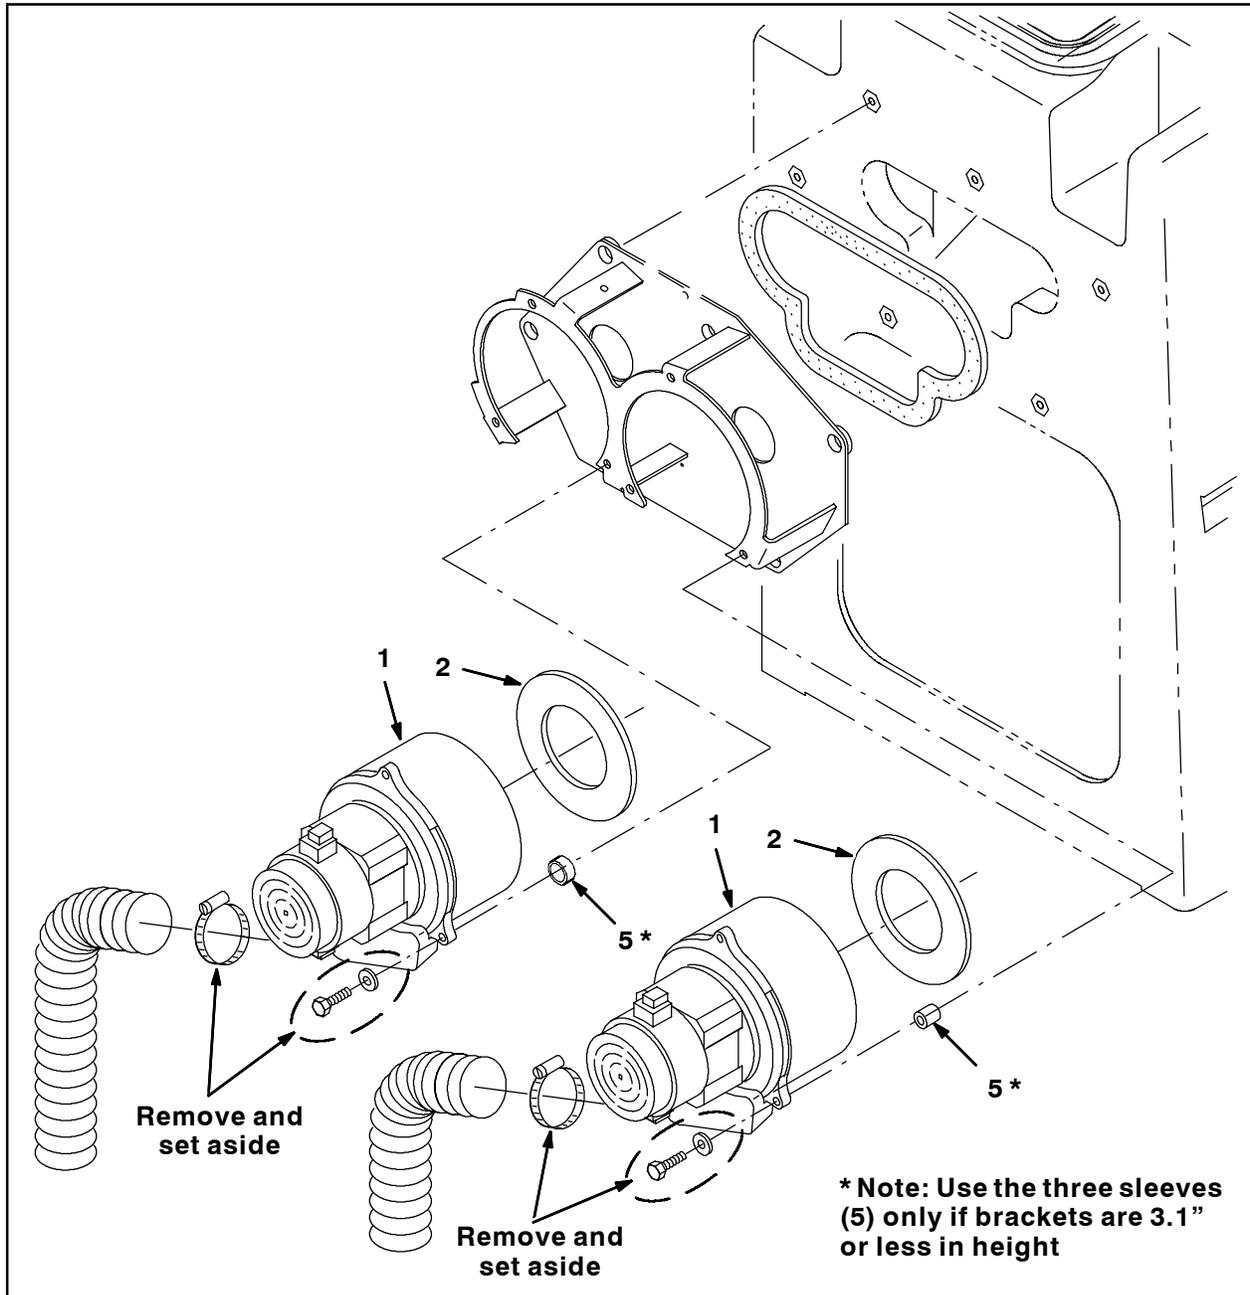

FIG. 7
1. Install the seal (2) onto the vacuum fans (1). Refer to Fig. 7.
2. Use saved hardware to install the new vacuum fans (1) onto the machine. Refer to Fig. 7.
3. Connect the main wire harness and hoses to the vacuum fans (1).
4. Reinstall all parts previously removed to access the vacuum fans back onto the machine. Refer to Fig. 7.